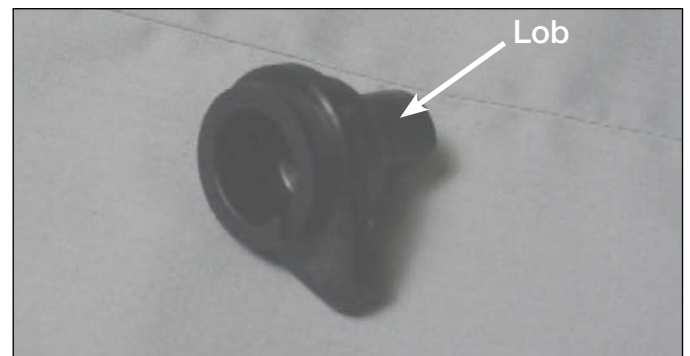

Figure 26.
7. Place the neutral position pointer lob, see Figure 26, into the main movable contact hub located in the lower front center of the drive assembly panel. See Figure 27.